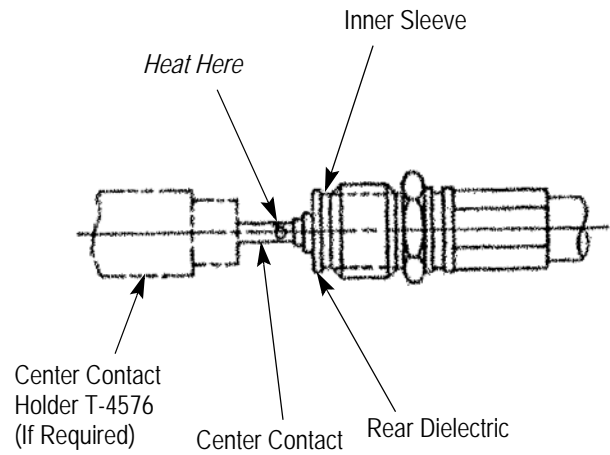

Figure 4
2. Place the center contact in a center contact holder, heat the center contact and push it over the inner conductor of the cable with the large diameter of the contact resting firmly against the rear dielectric. Refer to Figure 4.